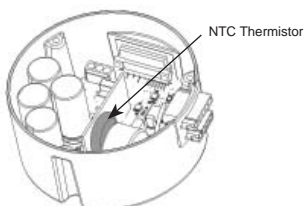

Figure 9b
4. Inspect the NTC thermistor inside of control unit for any cracks or breakage [Figure 9b].